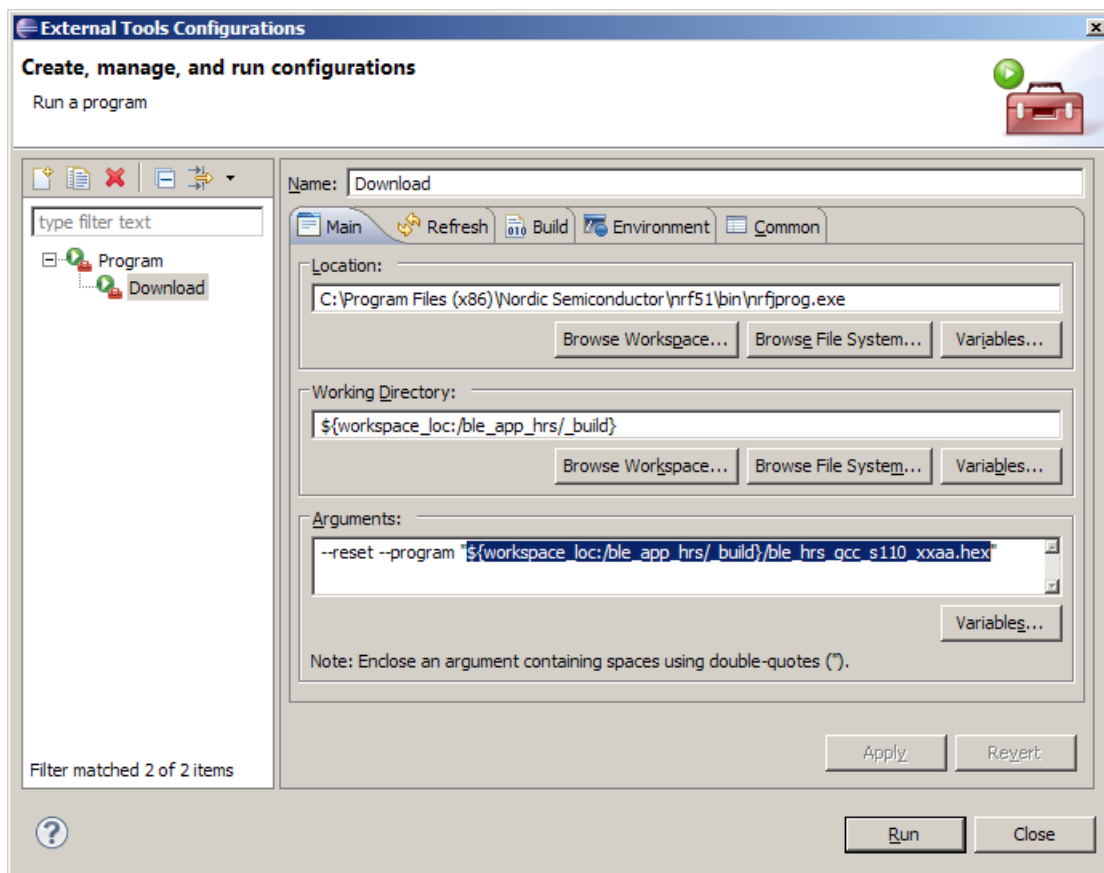

Figure 6 External tool configuration
2. In the Name field type **Download and run ble_app_hrs** as the name for the configuration. See *Figure 6*.